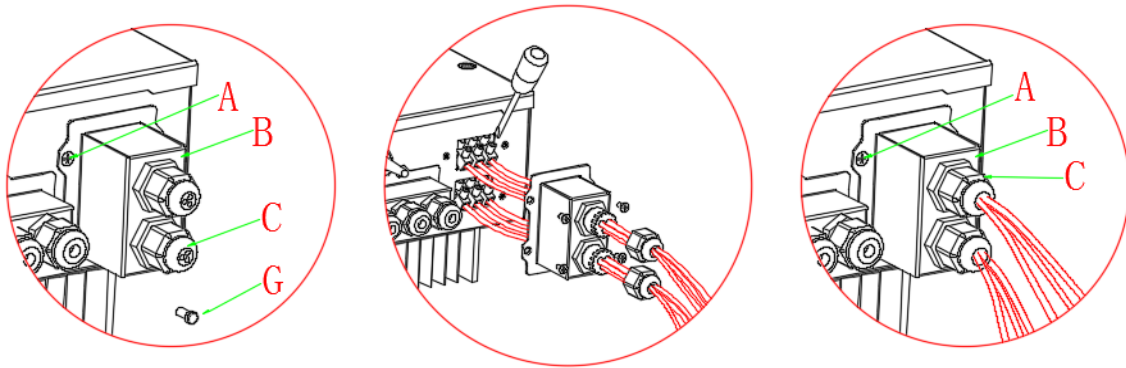
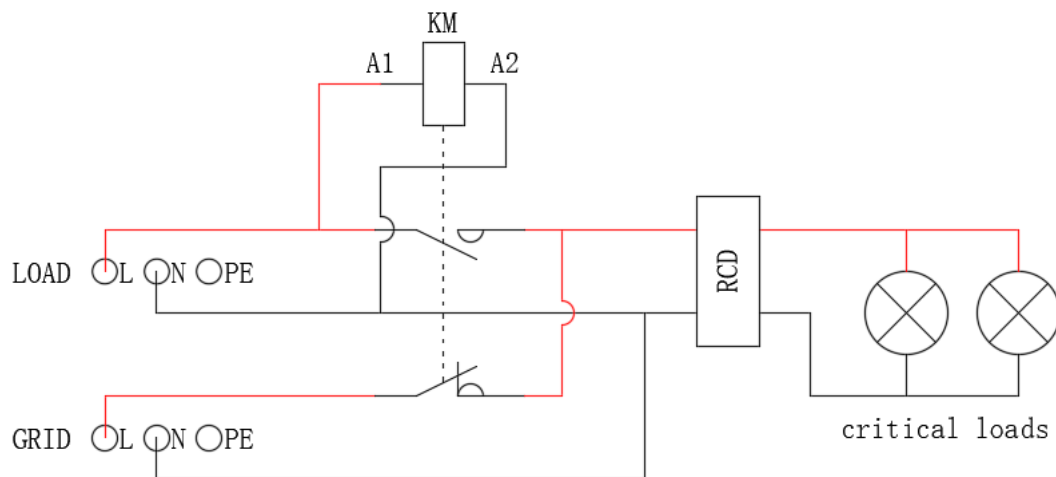

Fig. 10 Grid & Load connection
Fig. 11 Connection of critical load (AC contactor: 2 Normally Closed, 2 Normally Open)
Step 1: Loosen 4 screws (part A) using a screwdriver (fig. 10)
The connection procedure to LOAD port is the same as grid connection (Fig. 10). Before connecting the critical load, please make sure that you understand the following diagram (Fig. 11).
6. AC connector is connected correctly(fig. 11);